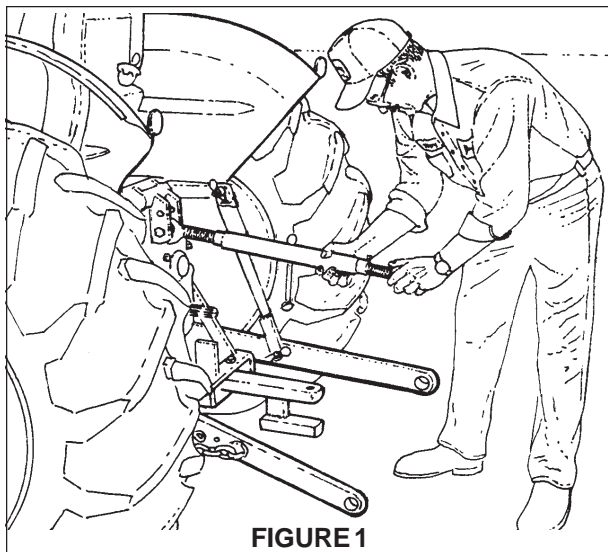

FIGURE 1
2. Position the tractor so that the lower hitch arms are level with and slightly ahead of the mower. Carefully inch the tractor rearward to align the tractor hitch arms outside the mower hitch arms and in line with Hitch Pins. Adjust the Top Link so it will pin to the top set of holes in the A-Frame. Stop the engine and attach tractor lift arms to Hitch Pins. Insert Lock Pins. Figure 1.